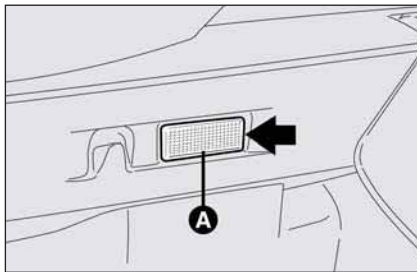

fig. 41
- remove the light unit **A**-fig. 41 levering in the point shown by the arrow.
- refit the light unit **A**-fig. 41 inserting it in its correct position firstly on one end and then on the other until it clicks into place.